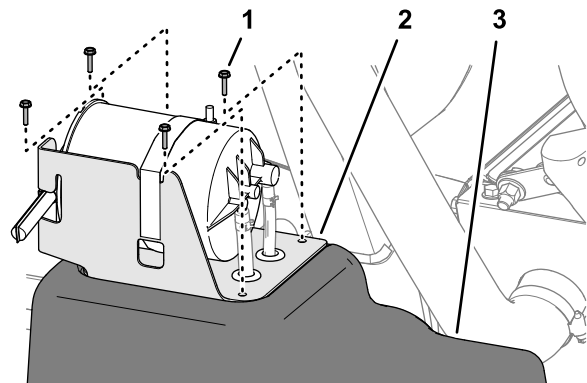

Figure 83
2. At the fuel tank, remove the 4 screws (#10 x 3/4 inch) that secure the carbon-canister bracket to the top of the fuel tank (Figure 83).